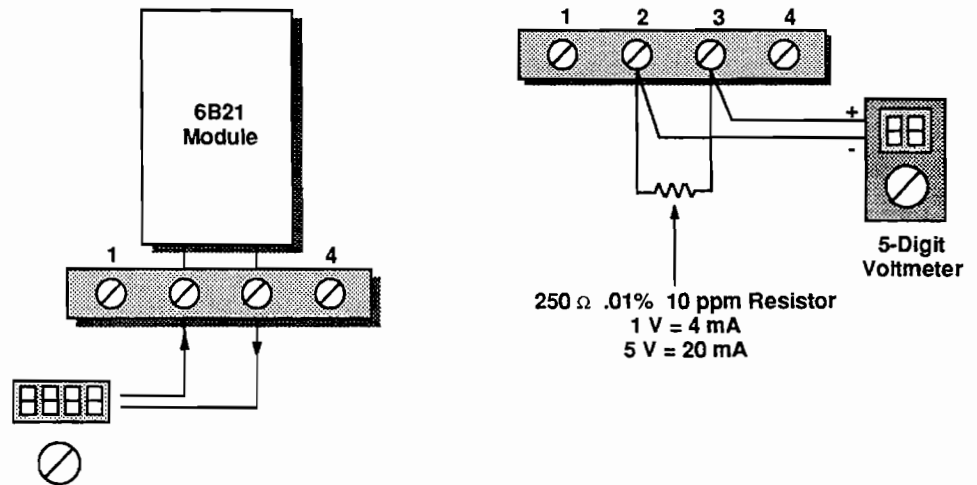

Figure C-3. Attaching Meter to Analog Output Module
3. Attach either a 5-digit milliammeter or a 5-digit voltmeter with a shunt resistor ($250\ \Omega$, 0.01%, 10 ppm) to the appropriate module. Refer to Figure C-3.